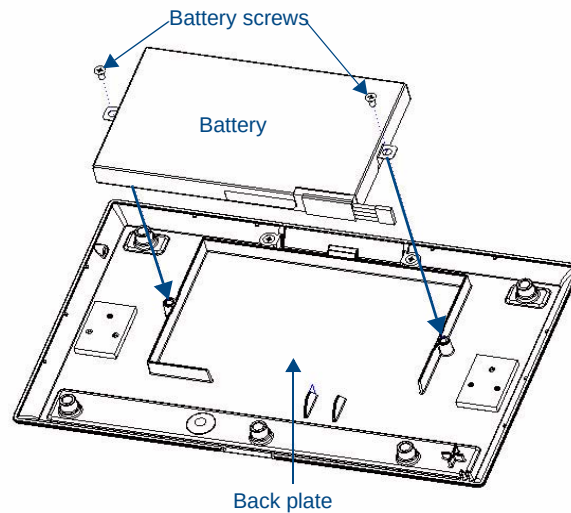

FIG. 86 Attaching the new battery to the MVP-5100 back plate
2. If the battery comes in a protective metal case, remove the two screws holding the battery case to the back cover (FIG. 86). Carefully remove the battery from the back cover.